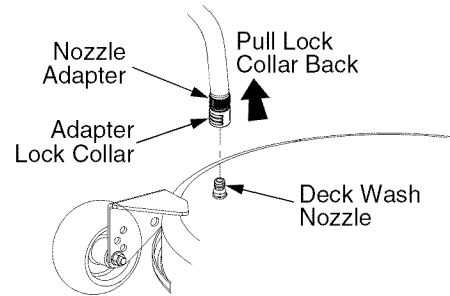

Figure 40
- Pull back the lock collar of the nozzle adapter and push the adapter onto the deck wash nozzle at the left end of the mower deck. Release the lock collar to lock the adapter on the nozzle. See Figure 40.